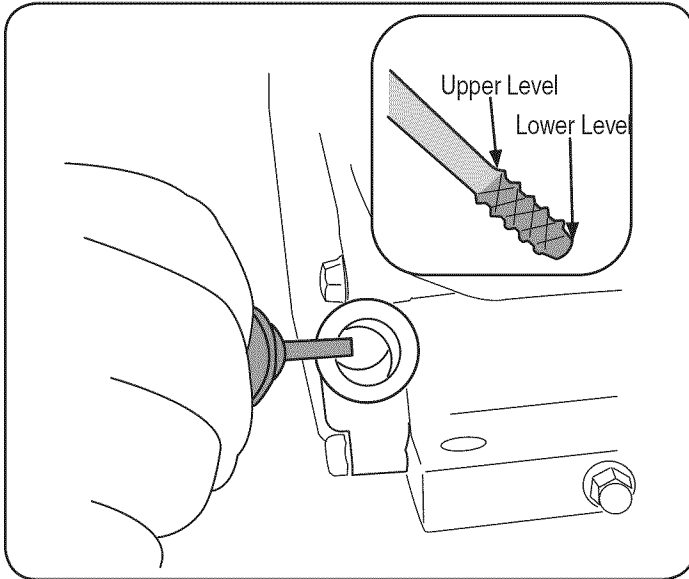

Figure 7
2. Remove the oil filler cap/dipstick and wipe the dipstick clean. See Figure 7.
4. Remove the oil filler cap/dipstick. If the level is low, slowly add oil until oil level registers between the upper level and lower level, Figure 7.